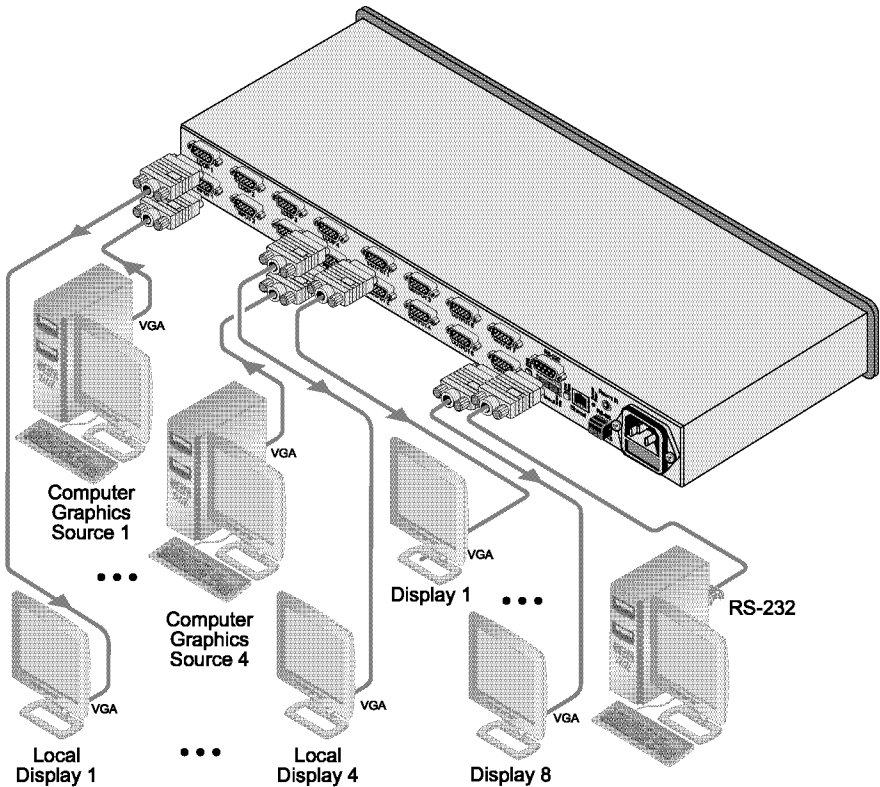

Figure 3: Connecting the VP-4x8 4x8 VGA / UXGA Matrix Switcher
To connect the **VP-4x8** as shown in *Figure 3*, do the following¹:
6. Connect the power cord⁵ (not shown in *Figure 3*).